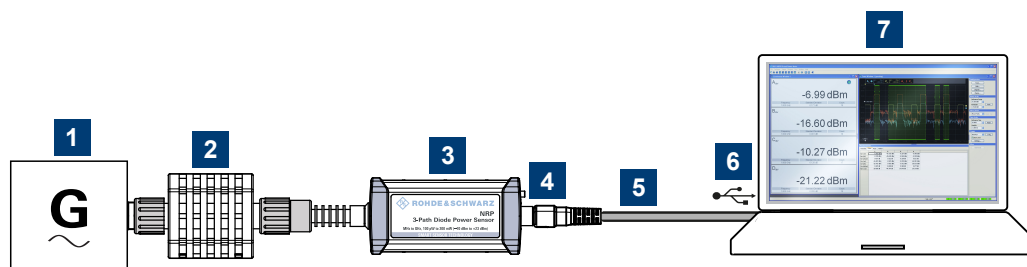

Figure 5-1: Setup with an R&S NRPV
2. Connect the power sensor to the computer as shown in Figure 5-1.